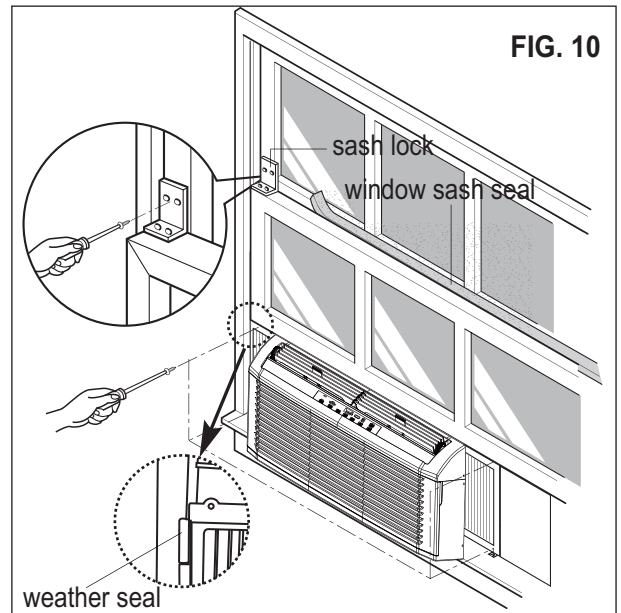

FIG. 10
Expand the filler panels and secure them using 4 screws as shown in FIG.10. When filler panels opens or closes, you may feel a slight resistance. This is normal.
- \* Cut the window sash seal to the window width. Stuff the window sash seal between the glass and the window to prevent air and insect from getting into the room, as shown in FIG.10.
- \* Trim the weather seal (6"X3/4"X1/12") to a proper length, peel off the protective backing and plug any gaps if needed as shown FIG.10.
- \* Install the sash lock bracket to prevent window from being raised which may result in unit falling.as shown in FIG.10.